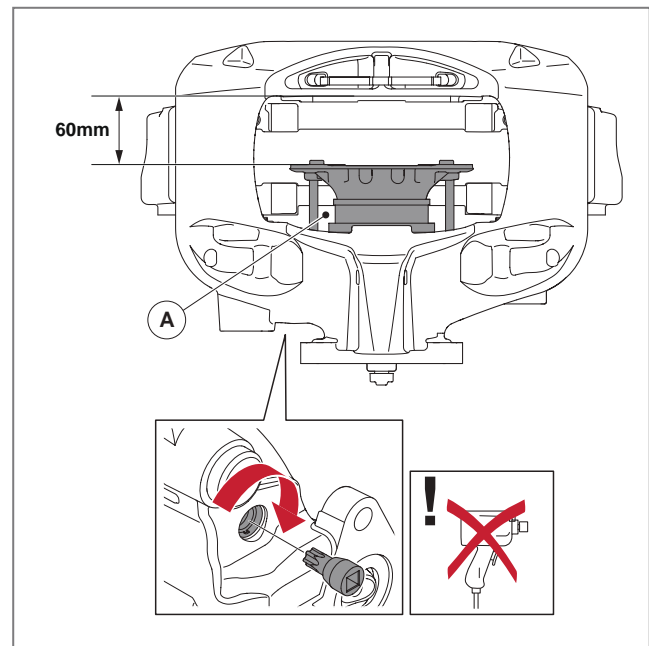

Fig. 29 - Max. unscrewing for inspecting the thrust plate bellows
2. Use the Torx 55 socket to manually rotate the reset shaft clockwise. This unscrews the thrust plate (A) from the adjustment screw so that the bellows can be inspected. Stop when the distance between the inner pad face of the thrust plate and outer pad face of the brake calliper is 60 mm, see ► Fig. 29.